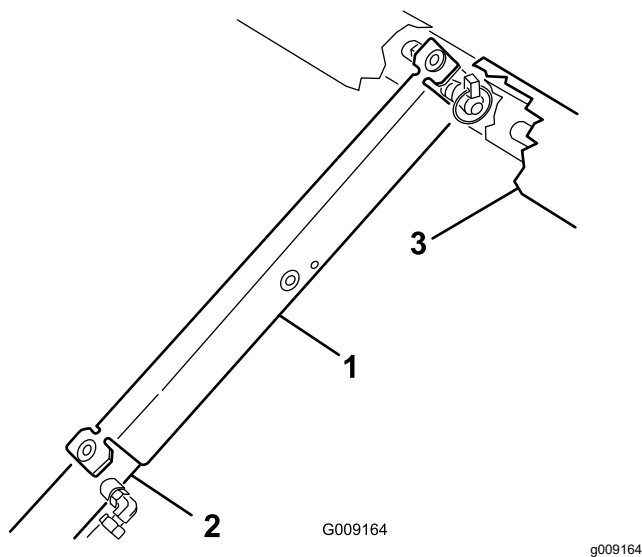

Figure 21
3. Push the bed support onto the cylinder rod, and ensure that the support-end tabs rest on the end of the cylinder barrel and cylinder-rod end (Figure 21).